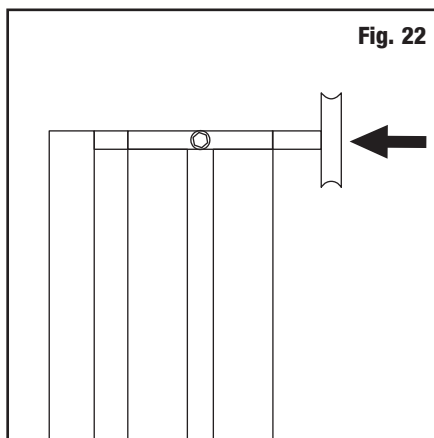

Fig. 22
1. Attach Pulley to top mount block (Fig. 22).